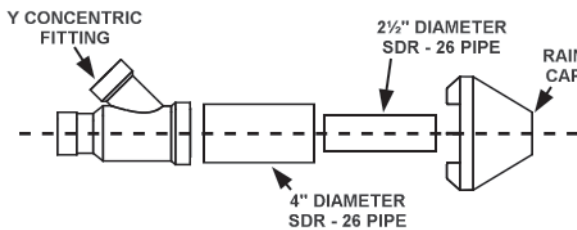

Figure 25
- Cement Y concentric fitting to larger diameter kit pipe, see Figure 25.
- Cement rain cap to smaller diameter kit pipe, see Figure 25.
- Cement the Y concentric fitting to larger diameter kit pipe, see Figure 25.
- Cement the rain cap to the smaller diameter kit pipe, see Figure 25.
NOTE: If assembly needs to be extended to allow side wall thickness requirement, the 2 pipes supplied in the kit may be replaced by using same diameter, field-supplied SDR-26 PVC (D2241) pipe. Do not extend 21 1/8" (53.6 cm) dimension more than 60" (1.5 m). See Figure 25.